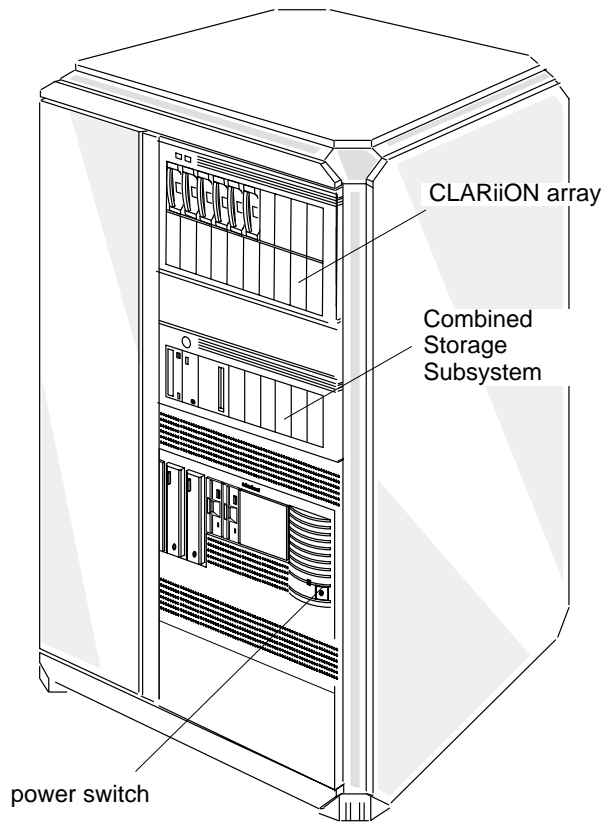

Figure 1–2 Powering off an AViiON 9500
3. Press the computer unit’s power switch, shown in Figure 1–2.